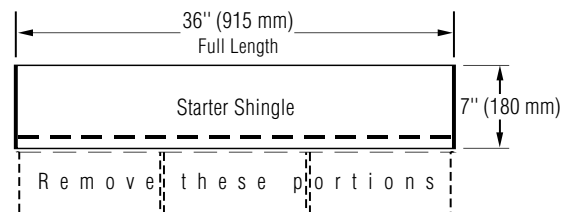

Figure 10-6: Make starter shingles by removing the lower 5" tabs.
1. Use CertainTeed Swiftstart™ or Universal Starter or a starter course consisting of the shingles from which the lower 5" tabs have been removed (Figure 10-6). Remember, the sealant on starter courses should lie as close as possible to the eaves edge of the roof.
1. Use CertainTeed Swiftstart or Universal Starter or a starter course consisting of the shingles from which the lower 5" tabs have been removed (*Figure 10-6*). Remember, the sealant on starter courses should lay as close as possible to the eaves edge of the roof.
1. Use CertainTeed Swiftstart or Universal Starter or a starter course consisting of the shingles from which the lower 5" tabs have been removed (Figure 10-6). Remember, the sealant on starter courses should lay as close as possible to the eaves edge of the roof.